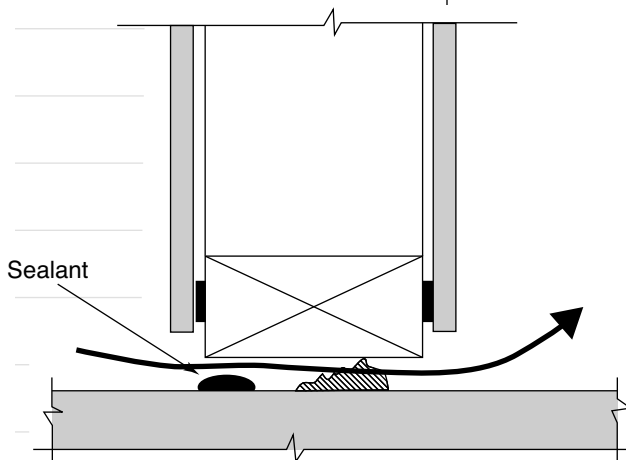

FIGURE 5
- ◆ Be sure the floor is clean before sole plates are laid. Properly seal the gap under the plates (see Figure 5).